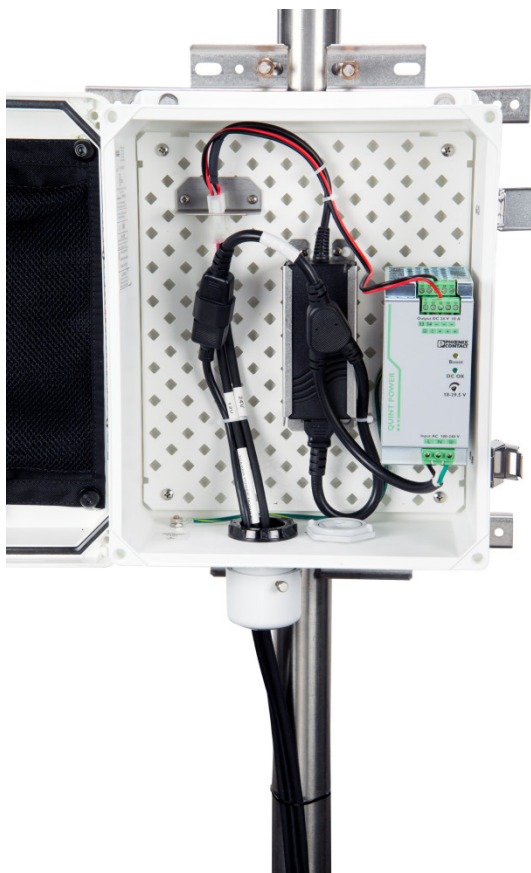

FIGURE 6-13. TGA200A power module with cables installed
7. Replace the cap of the cable feedthrough by pushing it on, rotating it to fit snugly against the cables, and tightening the thumbscrew. The connected power module enclosure is shown in FIGURE 6-13.